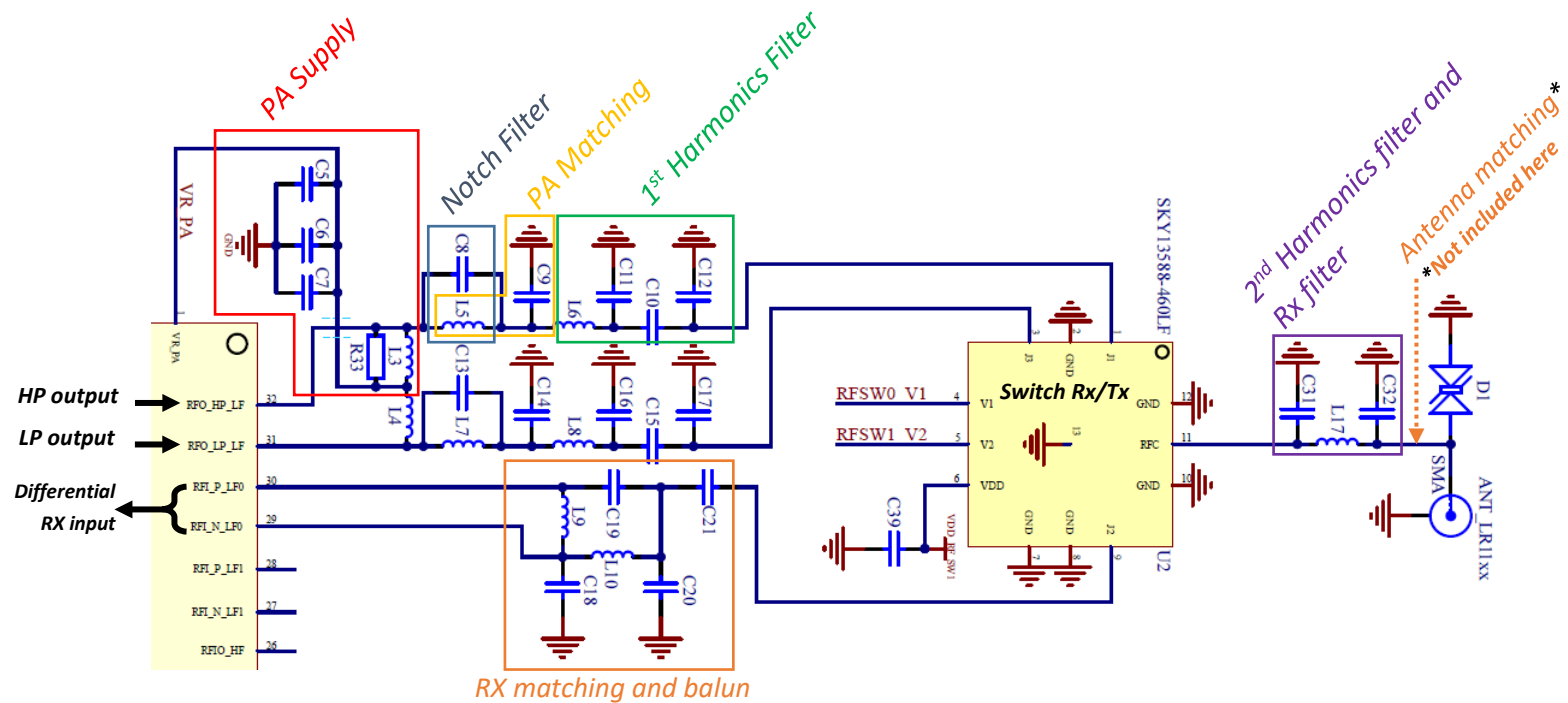

Figure 13: EVK LR11xx – LoRa RF Paths
Example: EVK LR11xx – LoRa RF Path (see Figure 13): TX High power (HP) / TX Low power (LP)* / RX
- **Power Modes**: Two power modes are available (not represented on Figure 13):